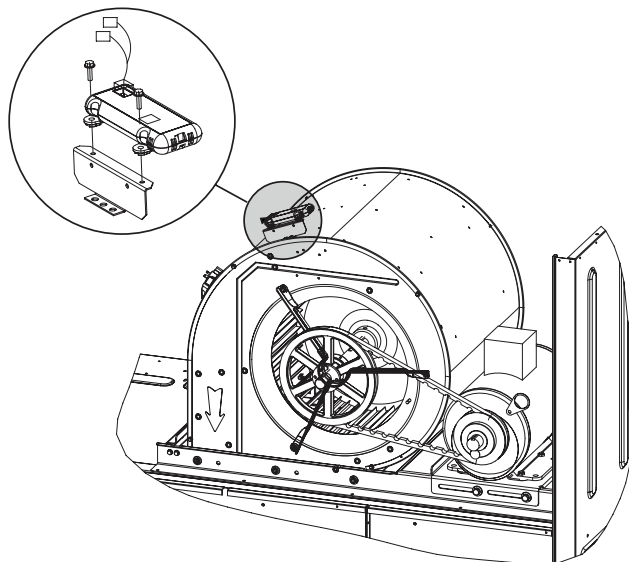

Figure 10 - Mixed Air Sensor Location
3. Mount the mixed air sensor to the sheet metal bracket. Then mount the bracket and sensor to the blower housing as shown in Fig. 10.